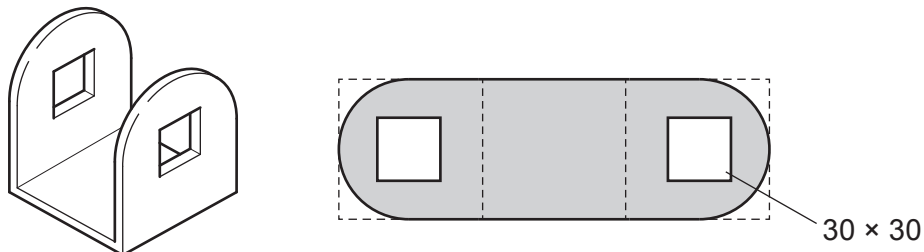

Fig. 7.1
- 7 Fig. 7.1 shows views of a bracket made from 3 mm thick aluminium.